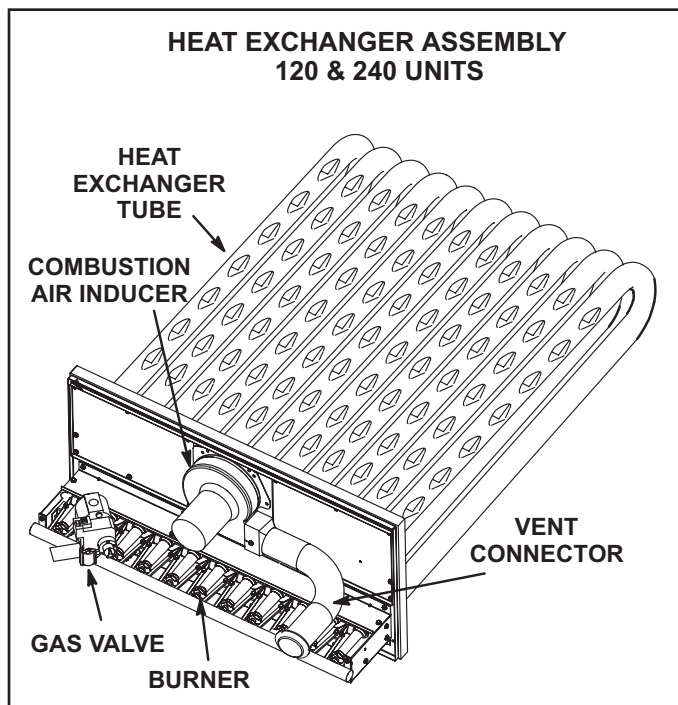

FIGURE 3
Annually, before heating season, inspect the combustion air louvers, vent cap, heat exchanger, burners and combustion air inducer for corrosion, deterioration or deposits of debris. Remove any obstructions or blockage. See Figures 3 and 4.
- 3 - Remove and retain the screws securing the combustion air inducer to the flue box. Remove and retain two screws from bracket supporting the vent connector. See figure 3 or 4.